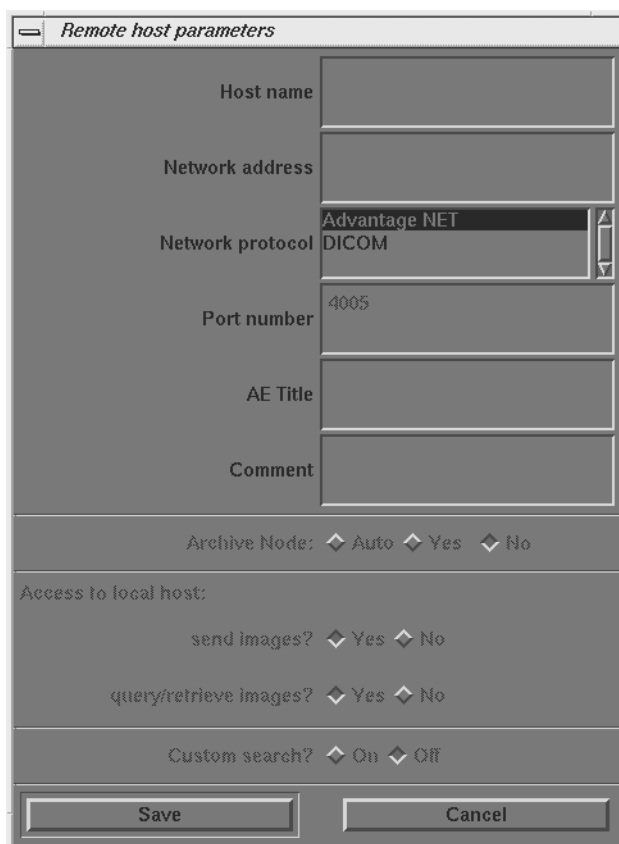

Figure 4-5 Advantage Net Network Protocol Parameter Settings
- 1.) Select REMOTE HOSTS from the pull down menu. The system displays the Remote Host Parameter Screen as shown in Figure 4-5.